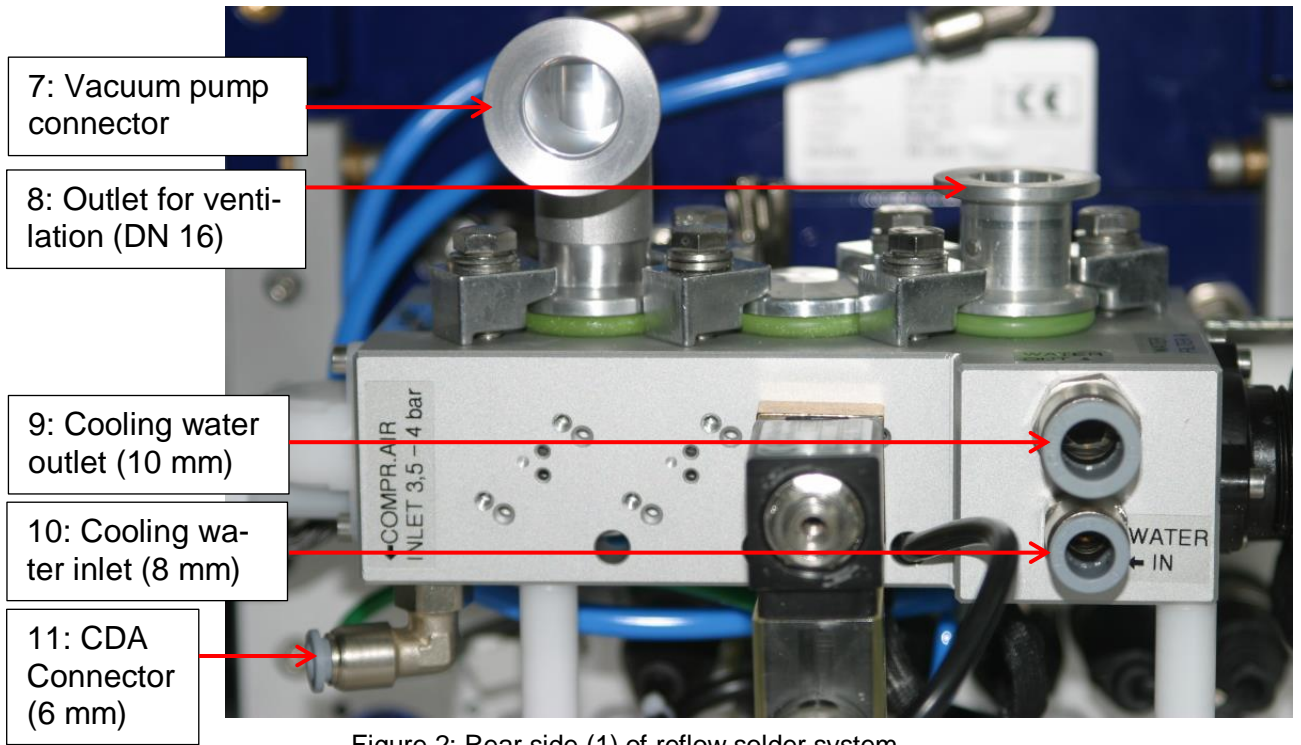
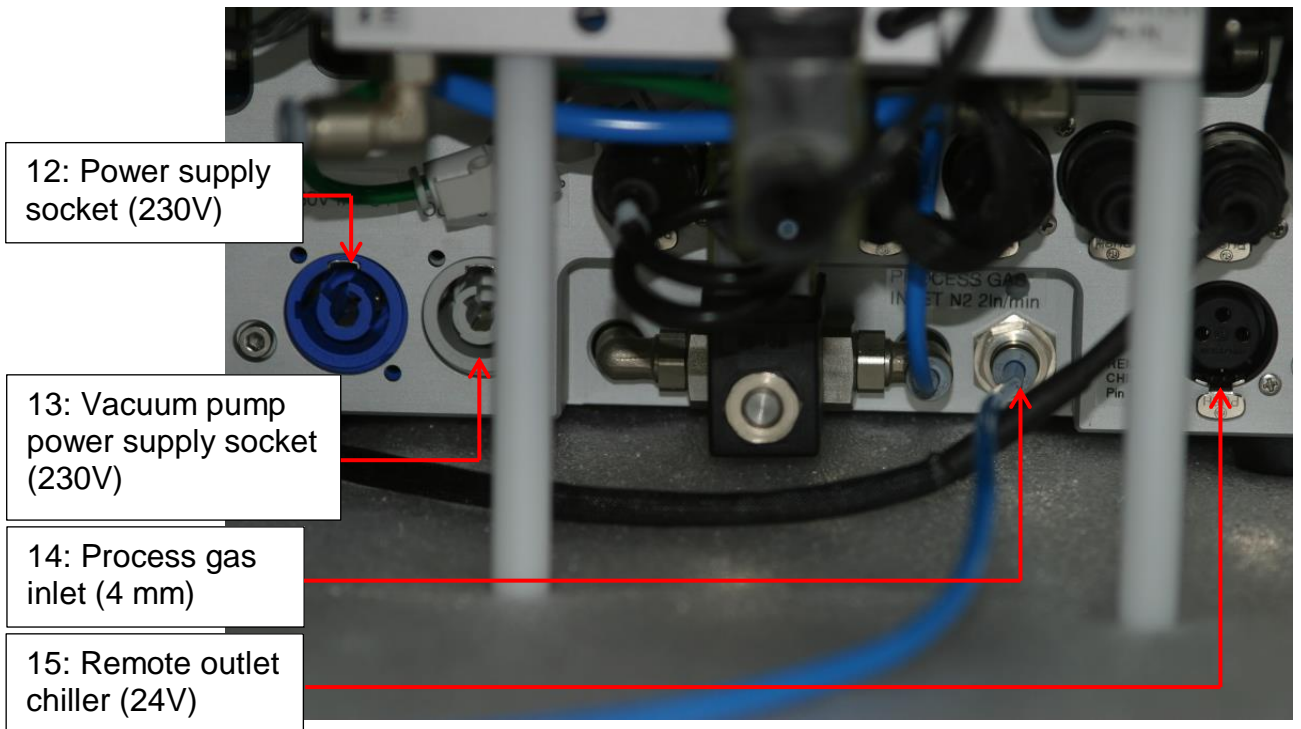
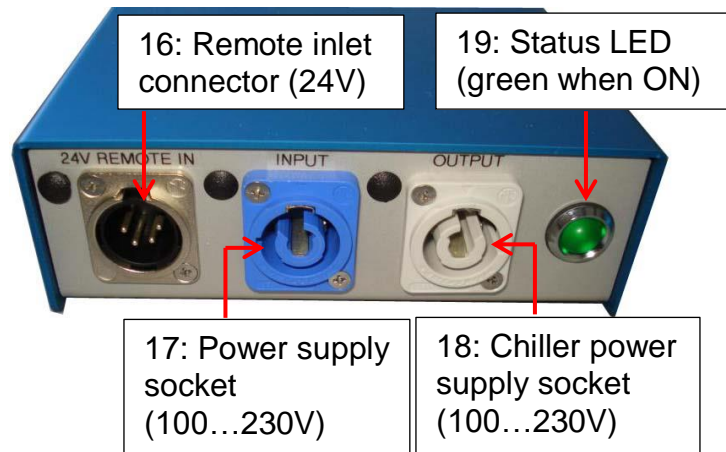

Figure 2: Rear side (1) of reflow solder system
Figure 3: Rear side (2) of reflow solder system
Figure 5: Rear side of external switchbox
The reflow solder system RSS-110-S is operated with 230 V, 50 Hz. For connection to a power socket with 10A maximum current (circuit breaker with slow characteristic) the provided 230V power supply cable with blue Neutrik connector (2 m length) has to be used (see no. 12 in Figure 3).
The reflow solder system RSS-110-S provides 230V electric output for the vacuum pump (see no. 13 in Figure 3) and 24V switching output for chiller (see no. 15 in Figure 3).
The external switchbox should be placed near to the chiller. The remote cable (24V) features a length of 2 m and has to be connected to both the remote outlet connector of reflow solder system (see no. 15 in Figure 3) and the remote inlet connector of external switchbox (see no. 16 in Figure 5).
The power supply socket (see no. 17 in Figure 5) has to be connected to local single phase power supply socket (100...230V). The chiller has to be connected to chiller power supply socket (see no. 18 in Figure 5). The status LED shows a green light when the chiller is switched on by reflow solder system.
The cooling water connections are placed at the rear side of the system. The cooling water inlet is done using plastic tube with outer \varnothing 8 mm (8 x 6 x 1) (see no. 10 in Figure 2), the cooling water outlet using plastic tube with outer 10 mm (10 x 7.5 x 1.25) (see no. 9 in Figure 2).
The RSS-110-S reflow solder system features two different types of gas inlet connections (see Figure 2 and Figure 3):
- Process gas inlet: there is one inlet (PU tube with outer diameter 4 mm) located at rear side of chassis (see no. 14 in Figure 3). The maximum flow of nitrogen (N_2) gas is 2 norm liter per minute. A pressure of 2...3 bar (0.2...0.3 MPa) is required.
The ventilation outlet (DN16) is located at the rear side of connector block (see no. 8 in Figure 2). If possible operate with the system beneath an exhaust (e.g. flow-box) or connect the ventilation outlet directly with ventilation, so that steam formation during the processes will not cause smells.